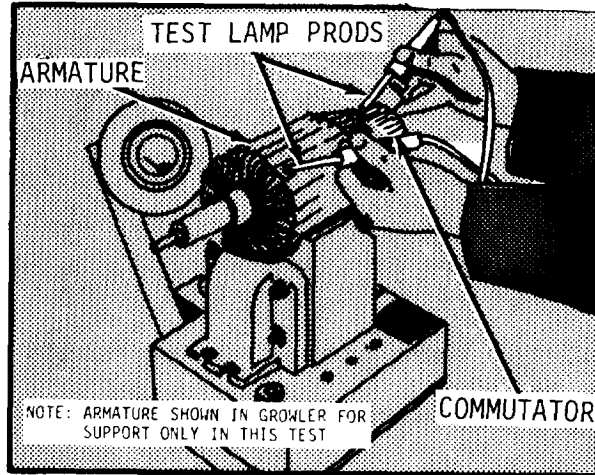
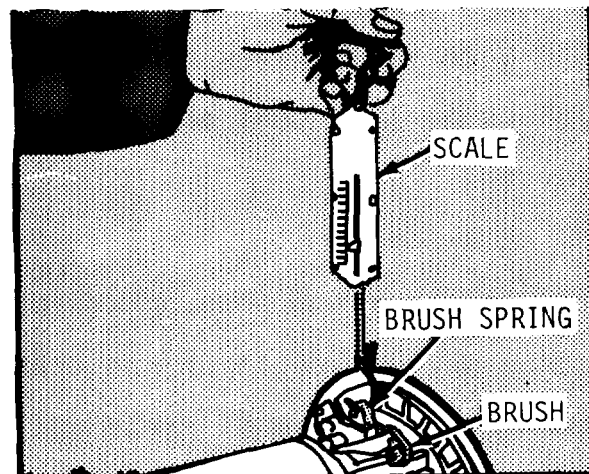

Figure 5-8. Testing armature for grounds.
Figure 5-10. Testing brush spring tension.
(1) Inspect brush contact surface of armature. A highly burnished, dark-copper color indicates satisfactory condition. If contact surface is rough, pitted, scored, burned in areas, or coated with hardened varnish or carbon accumulations, resurface commutator (par. 5-23). A short circuited or open-circuited armature coil leaves adjacent commutator bars burned or extremely dark in color. Check for shorts or openings with test lamp (fig. 5-8) and with growler (5-9). If test indicates short-circuit, carefully inspect between commutator bars for copper particles or a carbon bridge. If test and inspection indicate faulty armature coil, replace armature.
(2) If a series of defective commutator bars show burns, trouble may be due to eccentricity or grease deposits on surfaces. If burned areas are caused by grease deposits, clean and resurface commutator (par. 5-23). If burned areas are caused by eccentricity, mount armature on its bearings (not on shaft centers), and check concentricity. Eccentricity should not exceed 0.0002 inch bar-to-bar or 0.001 inch total runout. If test indicates eccentric commutator, resurface commutator (par. 5-23).
(3) Check soldering between commutator and conductors on armature. If "solder throwing" is indicated, resolder armature before continuing inspection.
(4) If generator armature is in good condition, bake it in dry oven from 2 to 4 hours at 193°F (89.5°C) to remove all traces of moisture.
(5) Check for a grounded armature with 220-volt ac or dc line and 50-watt lamp connected in series (fig. 5-8). When 220-volt source is not available, use 110-volt source. Touch one test prod to armature core and simultaneously touch other prod to one commutator bar. If lamp lights, armature is grounded; replace grounded armature. Test all commutator bars in this manner.
d. Brush Springs. Check brush springs for distortion and cracks. Check brush spring tension as shown in figure 5-10. Spring tension is between 45 and 54 ounces when spring is in position with a new brush installed. Replace springs that are distorted, cracked, or not within tension tolerances.
(1) Visually inspect generator housing assembly, making certain that pole shoe attaching screws are tight and staked.
(2) Inspect external insulation of field coils. If insulation is burned or cracked, or if coils show signs of mechanical damage, replace entire housing assembly.
(3) To test for short circuits, use same test circuit equipment used for testing armature (fig. 5-8). Connect one test lead to